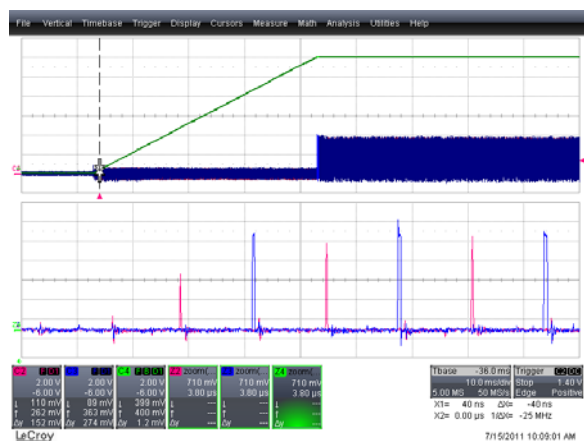
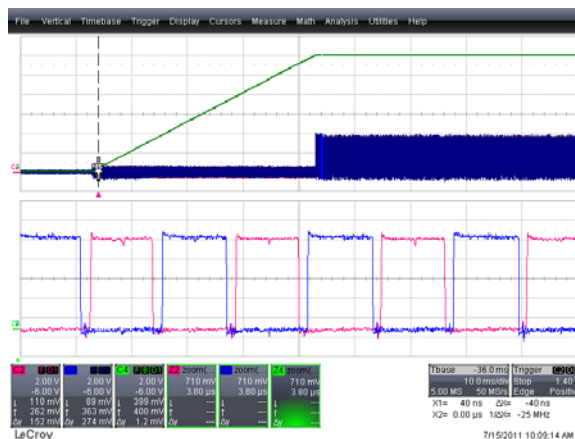

Figure 18 – Progression of SR PWMs during SR softstart
Figure 20 – Progression of SR PWMs during SR softstart
- C. **SR softstart:** This test shows the capability of the softstart ramp or fade in sequence applied to the synchronous rectifiers. The 'Enable SR softstart' button was checked. Figure 18 – Progression of SR PWMs during SR softstart Figure 18 to Figure 20 show a zoomed in snapshot of the duty cycle at the beginning and end of the softstart ramp.